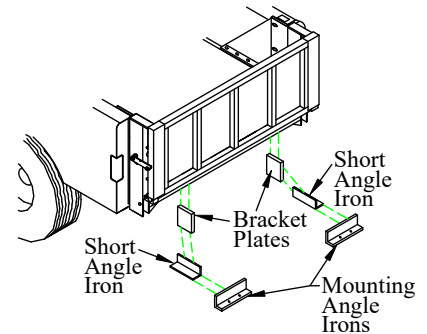

Figure 18: Lower bracket support.
2. **Bolt** the bracket plates to the truck frame (Figure 18).